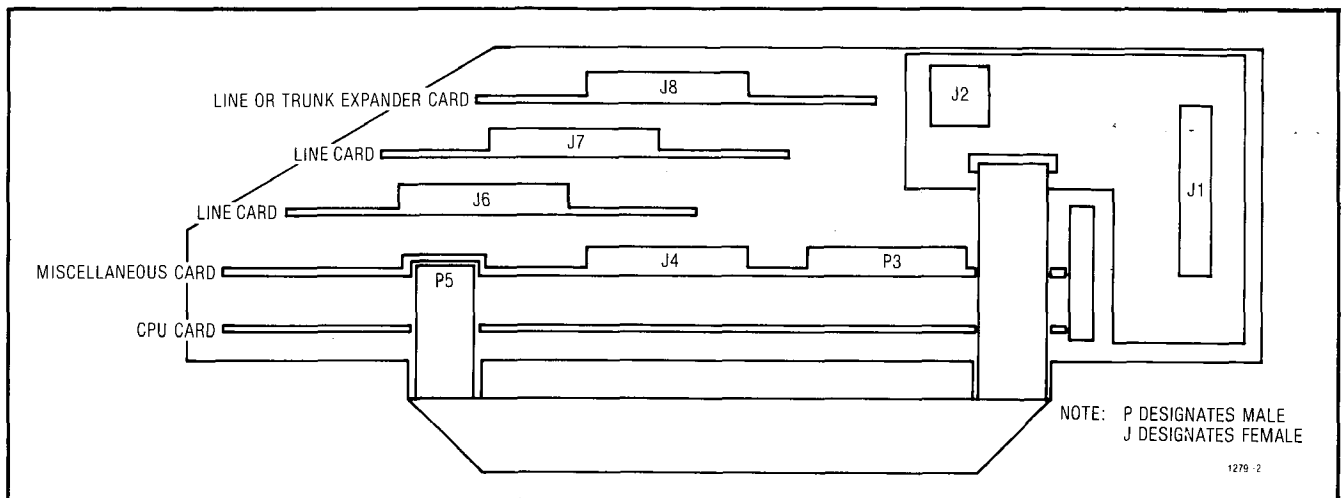

Fig. 6-1 Plug Locations
**6.03** All interconnecting cables must be terminated in accordance with Fig. 6-1 and Table 6-1 (Interconnect Cable - Console), Table 6-2 (Interconnect Cable - Trunks and Miscellaneous), and Table 6-3 (Interconnect Cable - Extensions).